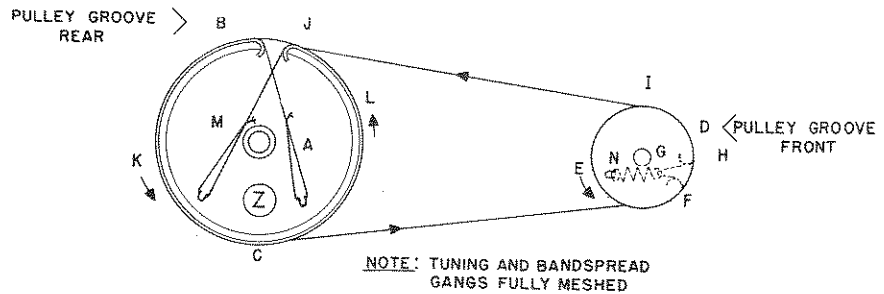

Fig. 2. Main Tuning Gang Drive Stringing Diagram
1. **MAIN TUNING GANG DRIVE** - Refer to Fig. 2. Tie one end of a 32 inch length of dial cord to the tie point at A on pulley (Z). Follow the stringing procedure A thru F. At G, place the cord thru one end of the tension spring, leaving the other end of the spring disconnected. Then proceed from H thru M. At M, take up the slack in the cord and tie it securely to the tie point. As the final step, stretch the spring and connect it to the tie point at N.